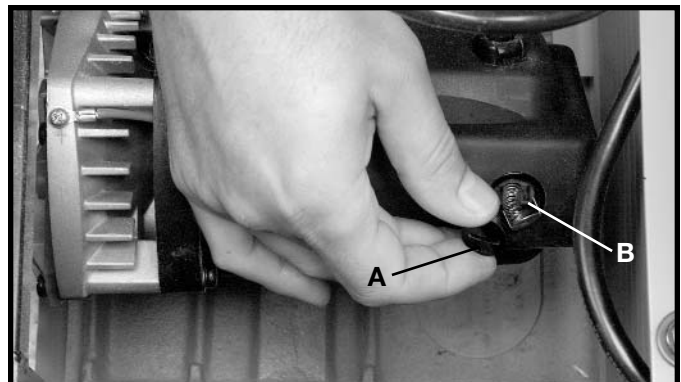

Fig. 47C
3. Fig. 47C, illustrates the brush cap (A) and brush (B) removed for inspection. When the carbon on the brush (B) is worn to 3/16" in length or if either the spring or shunt wire is burned or damaged in any way, replace both brushes. If the brushes are found serviceable after removing, reinstall them in the same position as removed.